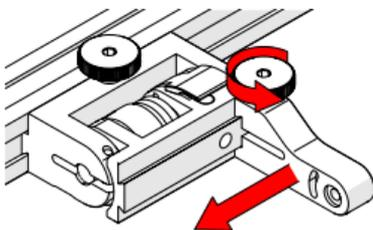

Fig. 109 - Position swing arm
5. Loosen the swing arm knob and slide the swing arm to the opposite end of the probe holder bracket (Fig. 109) or preferred position. Tighten the swing arm knob.